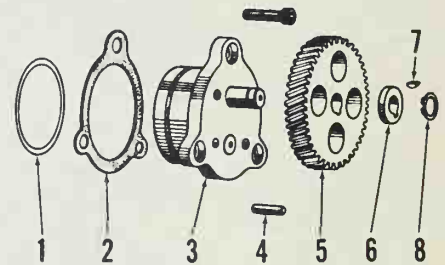

Fig. KR1-16—View of oil pump. Dowel pins (4) are inserted through pump end plates and body.
To disassemble oil pump, detach snap ring (8—Fig. KR1-16) and remove gear (5). Unscrew oil pump housing screws, then tap gently on shaft to dislodge oil pump components. Oil pump is available only as a unit assembly and should be renewed if components are damaged or excessively worn. Gear backlash should not exceed 0.12 mm. Two different oil pumps are used according to crankshaft rotation. Be sure new pump matches crankshaft rotation.